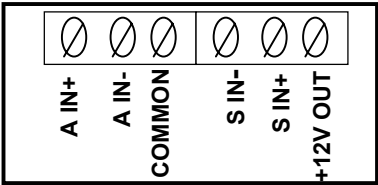

Figure 22
6. Connect a small jumper wire between the **COMMON** and the **S IN-** terminals and secure the jumper in the **S IN-** terminal by turning the terminal's screw clockwise. *(Refer to the MX001 box or to Figure 22 for the order of the terminals for the sensor wires.)*